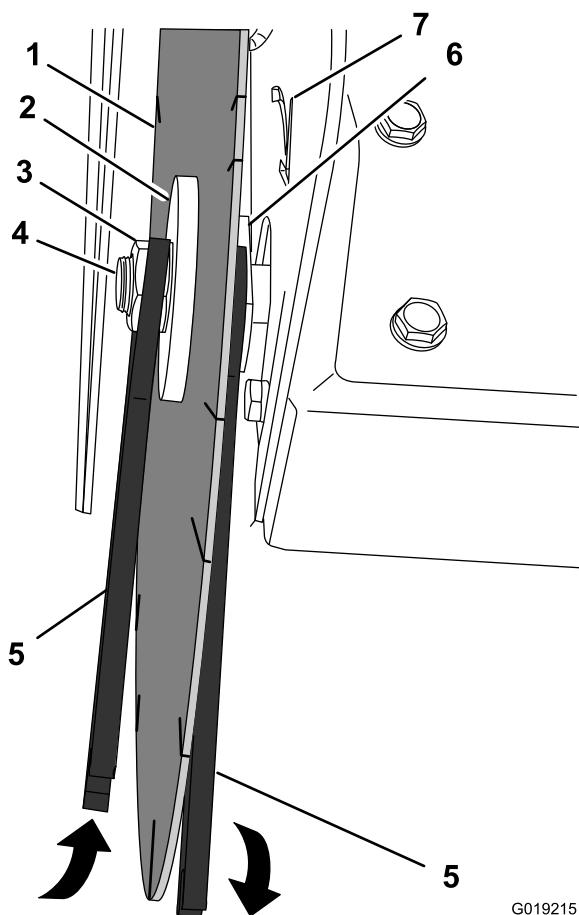

Figure 16
7. Place one wrench on the flats of the inner collar and place the other wrench on the arbor nut. Remove the arbor nut by rotating it counterclockwise (Figure 16).